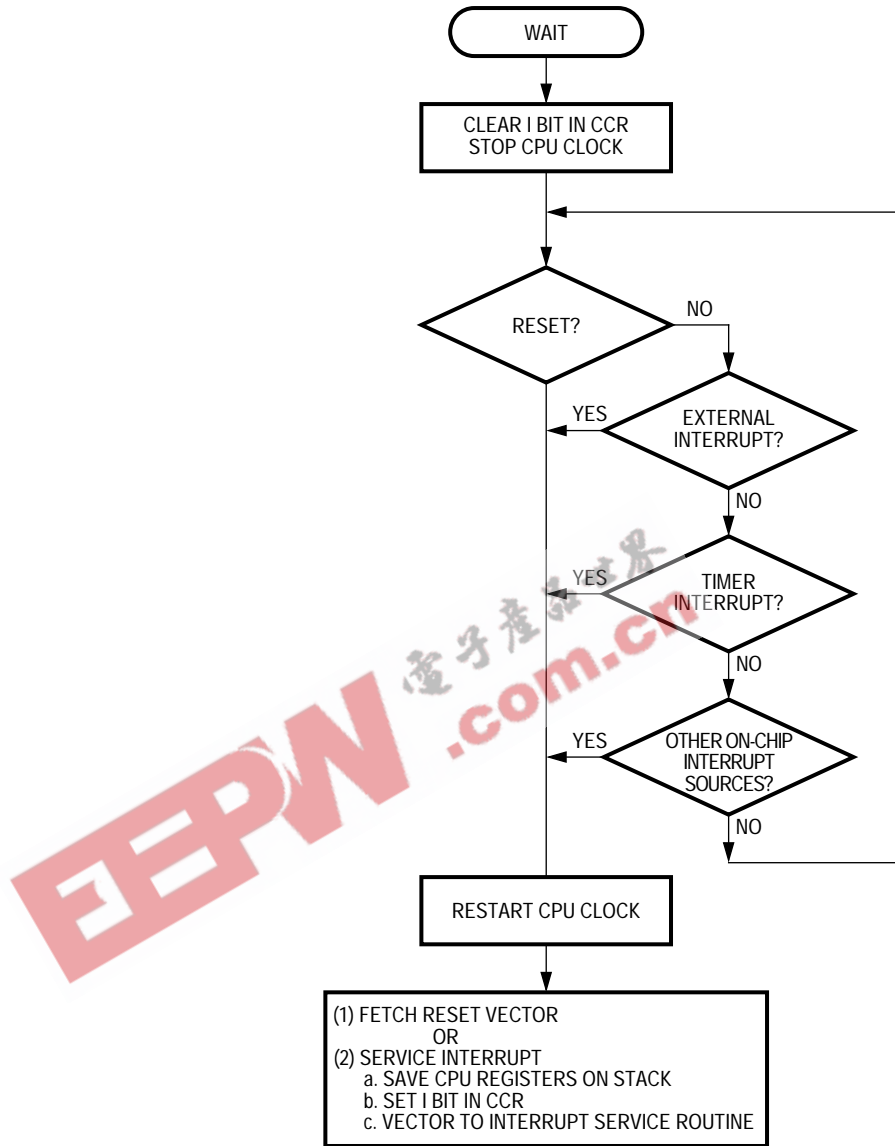

Figure 26. WAIT Instruction Flowchart
**Figure 26** shows the sequence of events caused by the WAIT instruction.